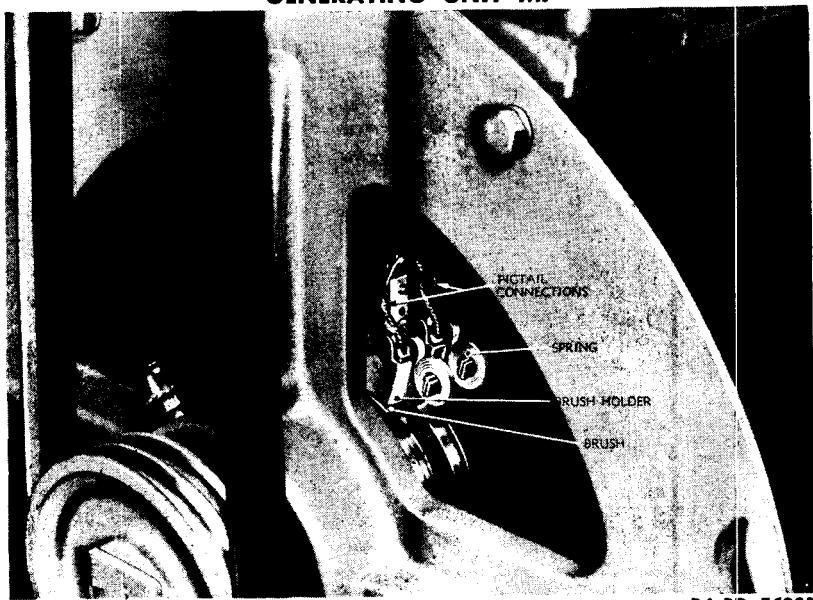

Figure 75—Alternator—Showing Springs, Brushes and Brush Holders
a. **Brush Inspection.** Alternator brushes (fig. 75) should be inspected at least every 3 months. If gummy and stuck in brush holders, they should be removed and cleaned. All brush holder supports should also be cleaned. Screws holding pigtail connections should be tight. Brush holder box should not be less than $\frac{1}{10}$ inch nor more than $\frac{1}{8}$ inch from collector rings.